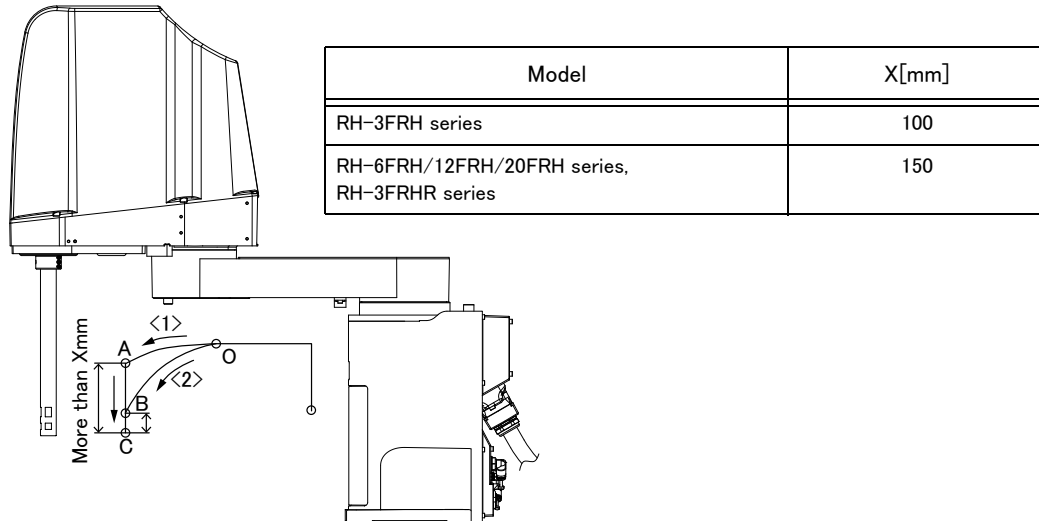

Fig.2-14 : Recommended path when positioning at the bottom edge of the Z axis
- 3) When positioning the work near the bottom edge of the Z axis, if no effectiveness is achieved in step "2" above, perform operation <1> (robot path: O → A → C). In the case of operation <2> (robot path: O → B → C), residual vibration may occur. (Refer to Fig. 2-14.)